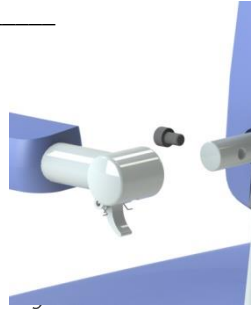

Figure 13 Armrest
- Allen key 6mm
- Check its room for motion, measured at the front point (replace if it is more than 4 cm.) (See figure 13). \_\_\_\_\_